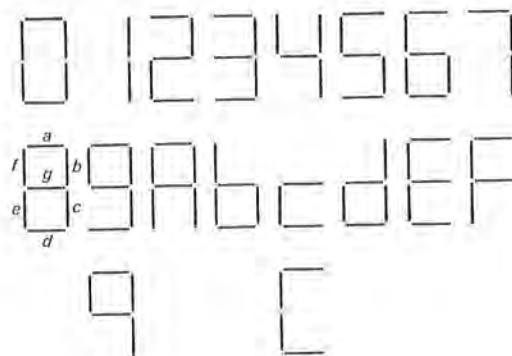

Figure 8.76. 7-segment display codes.
The inputs are the individual segment signals, which are always labeled *a*–*g*; see Figure 8.76, which also shows how the digits A–F are represented with 7-segment displays. Note that it is possible to represent 9 and *C* in two ways, both of which should be correctly recognized by our logic. For the PAL, we choose a 16L8,
Figure 8.77 is the input to CUPL. We assigned the (positive-true) segment drive signals *a*–*g* as inputs, and the (negative-true) hexadecimal bits D0–D3 as outputs. CUPL lets you define intermediate variables that can be used in later expressions; in this case it is convenient to define the obvious variables *zero* through *hexf*, the possible displayed digits in terms of the segment inputs. These are simply large product (AND) terms of the input segment variables, which you can read from the digit shapes in Figure 8.76. Finally, each binary output bit is written as the sum (OR) of the digit variables in which that bit is set. We've used negative-true levels because the 16L8 is an AND-NOR array, thus minimizing logic. This completes the logic specification to CUPL.